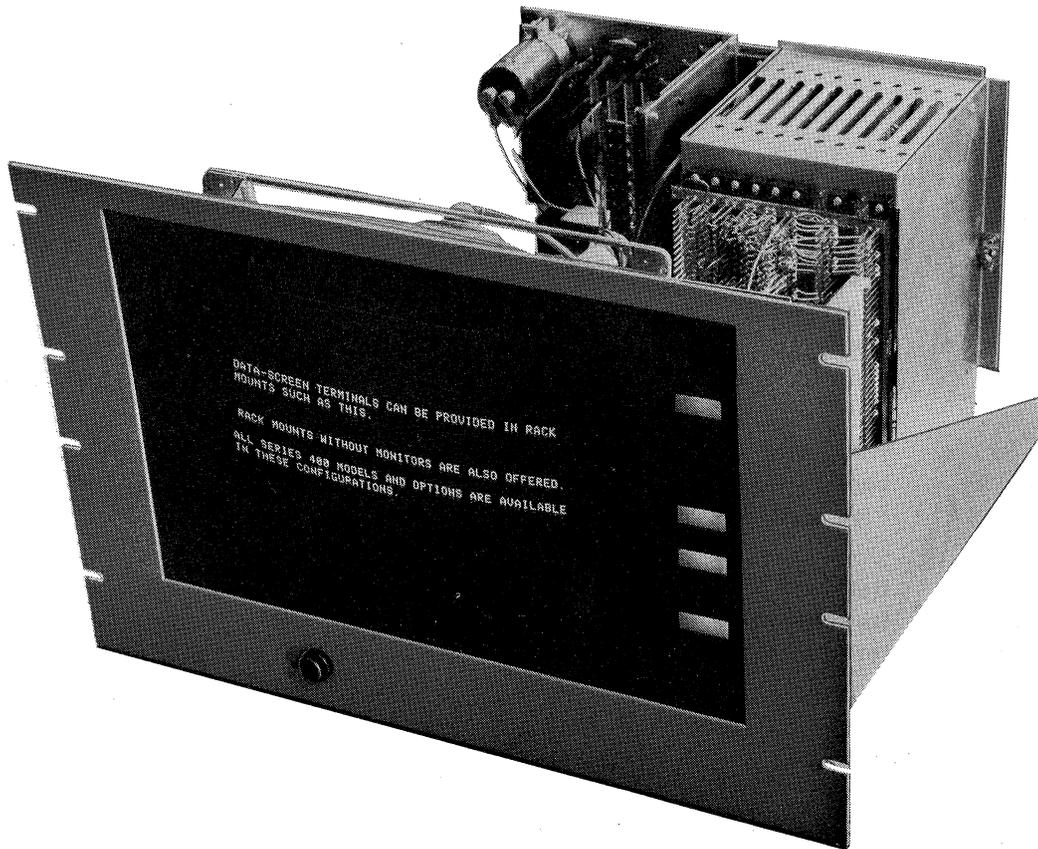

FIGURE 3 RACK MOUNT MODEL WITH MONITOR
- c. Rack mount (for standard 19-inch rack) with 12-1/4" high front panel. Consists of TV monitor, logic and power supplies. See Figures 3 and 31.